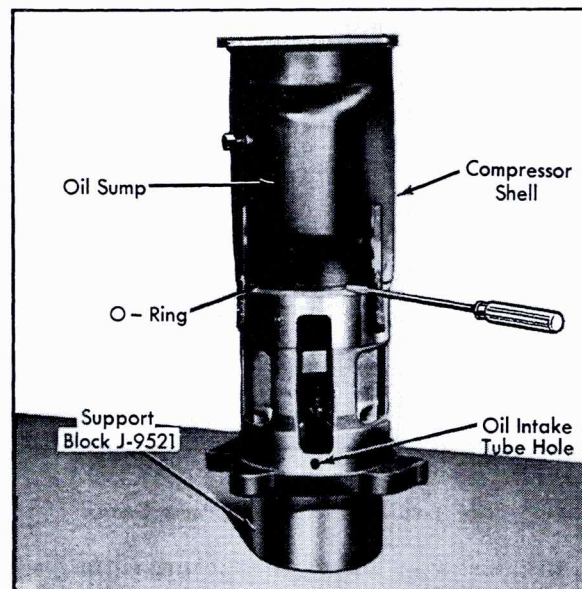

Fig. 1-76 Installing Compressor Shell
10. Using flat side of a small screwdriver, gently press O-ring in around circumference of internal mechanism until compressor shell slides down over internal mechanism. As shell slides down, line up oil sump with oil intake tube hole, Fig. 1-76.